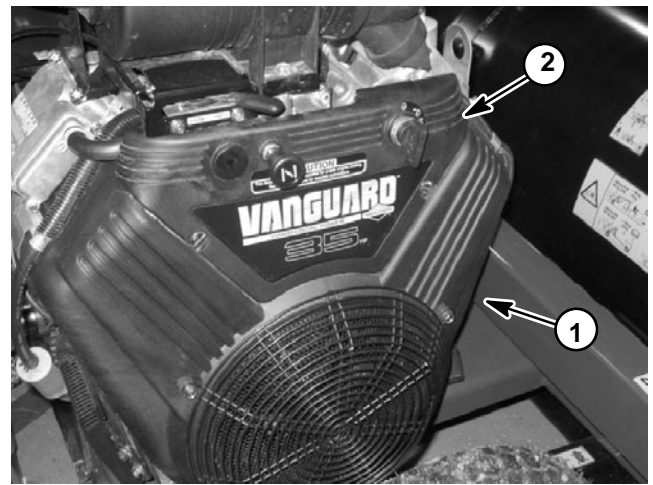

Figure 2
2. Remove front panel (Fig. 2) to allow cleaning around intake manifold, fuel pump, carburetor and governor linkage.
3. Clean blower housing of dirt and debris (Fig. 2). Remove blower housing from engine if necessary.